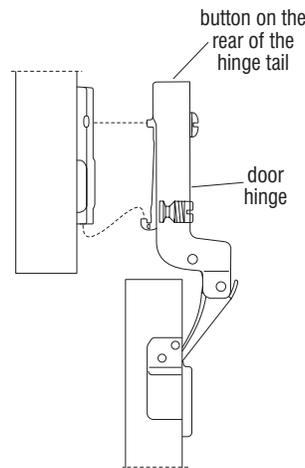

Figure 13 - Door Removal
4. To **disassemble door** from cabinet, press the button on the rear of the hinge tail inside the unit. Pull the door slightly forward to disengage the hinge connection. Repeat for the other door hinge to remove the door from the unit (Figure 13).